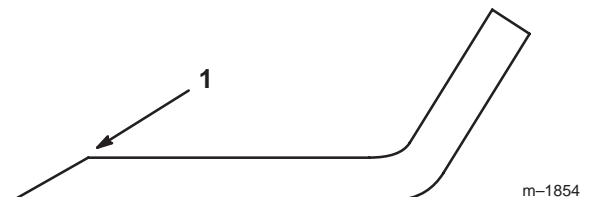

Figure 17
1. Use a file to sharpen the cutting edge at both ends of the blade (Fig. 17).